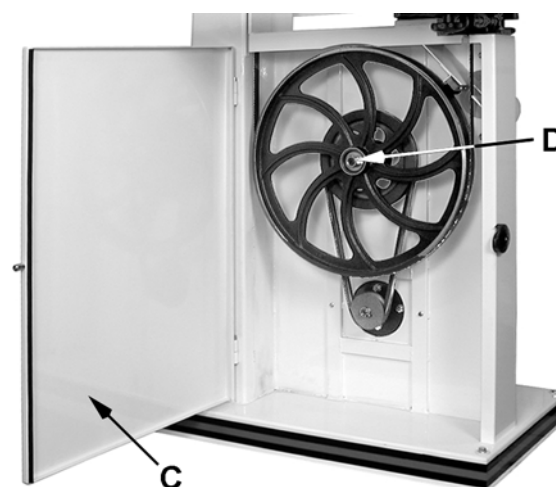

Figure 26
4. Open the lower wheel door (C, Fig. 26) and remove the *hex nut* and *washer* (D, Fig. 26).